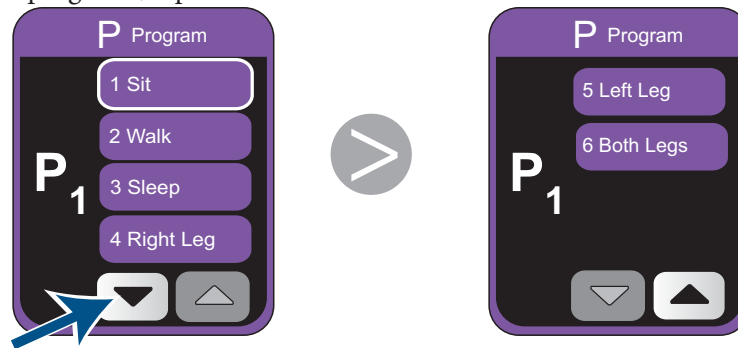

Figure 15. Viewing additional programs
2. If ▼ and ▲ are displayed, you have more than 4 programs available (*Figure 15*). To view more programs, tap ▼.